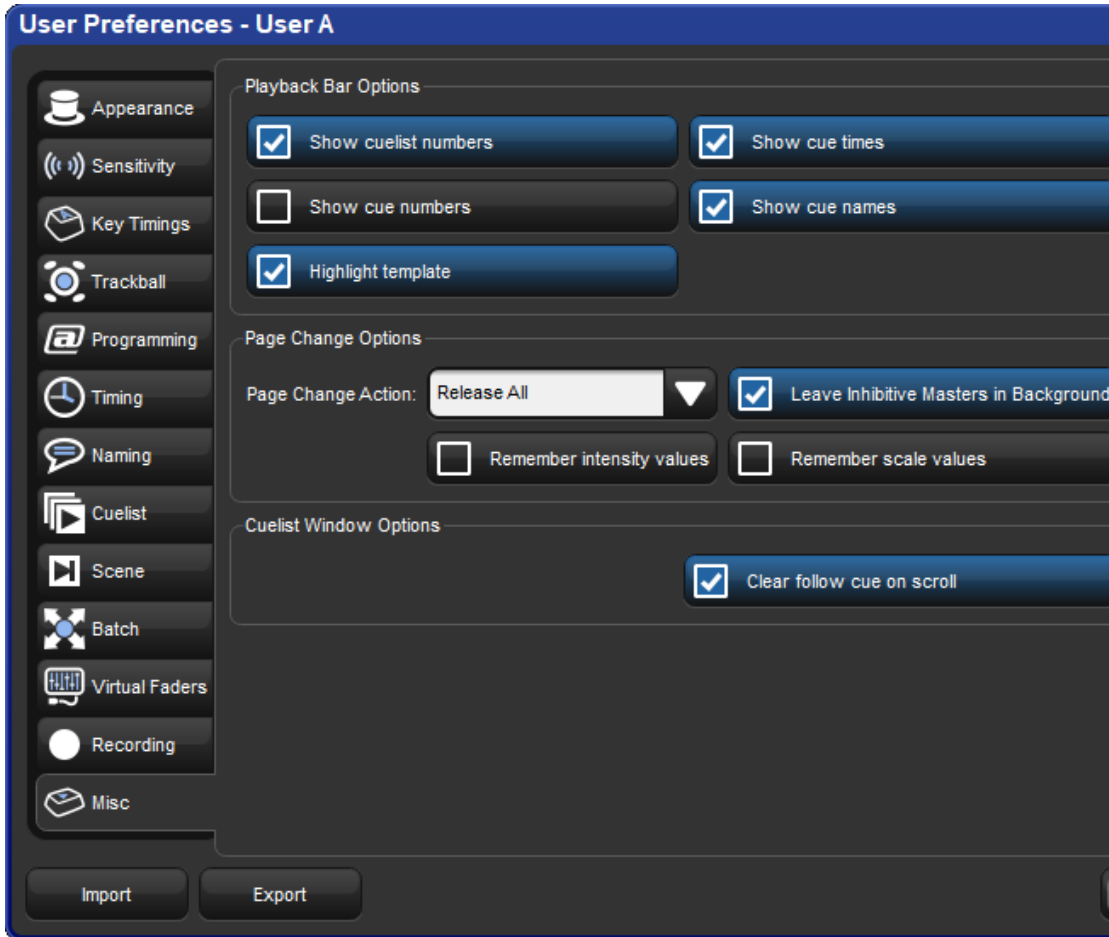

Figure 18.1. The Misc pane of the User Preferences window
- Setup → Preferences → Misc : see *Figure 18.1, "The Misc pane of the User Preferences window"*.